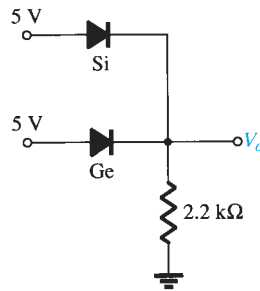

FIG. 2.167
21. Determine V_o for the configuration of Fig. 2.167.